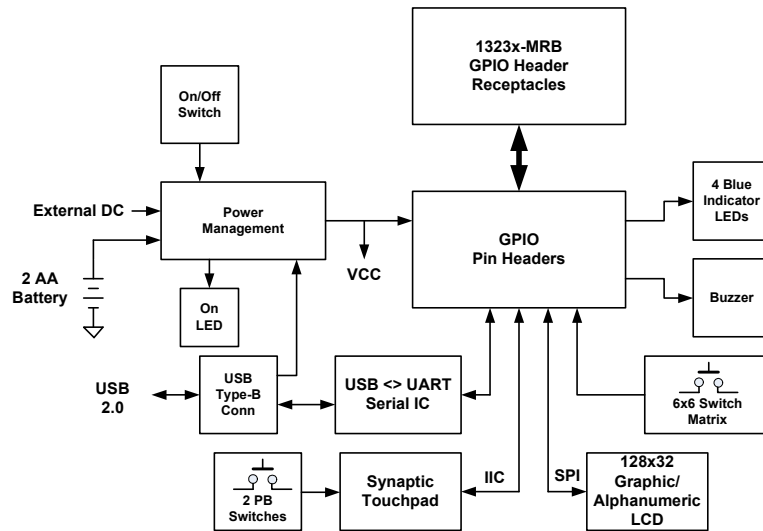

Figure 4-2. 1323x-RCM Block Diagram
The 1323x-RCM is a host motherboard for the 1323x-MRB. The two-board combination provides a powerful evaluation and development platform for the MC13233. Figure 4-2 shows a simple block diagram. The 4-layer board provides a flexible power supply, 36 pushbutton matrix, 128x32 LCD, Touchpad sensor, 3-axis accelerometer, four indicator LEDs, buzzer, and a USB ↔ UART serial port.
- Figure 4-2 for the functional blocks